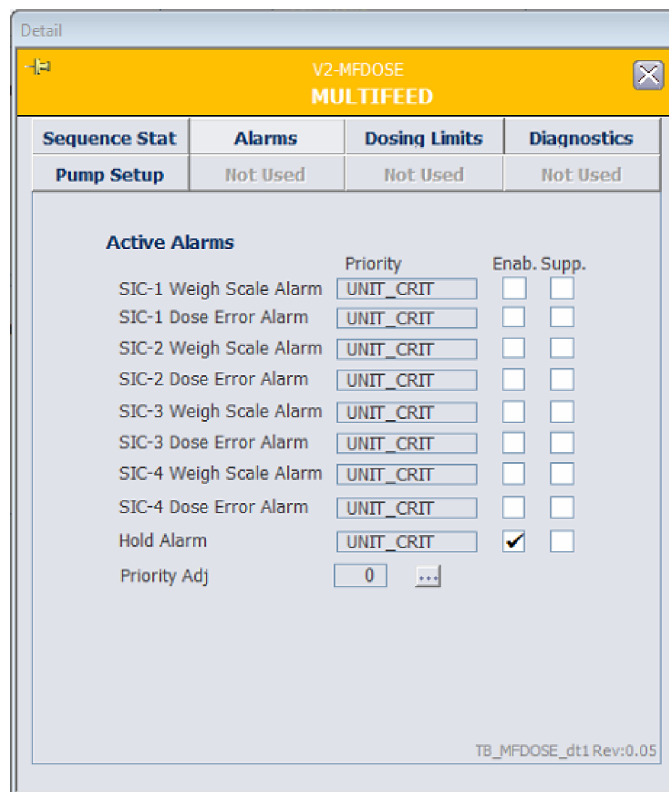

Figure 5.39. Alarms on Multi-Feed menu.
4. The alarms are enabled or suppressed on the **Alarms** tab shown in Figure 5.39. The **Priority Adjust** feature enables you to set the alarm levels from **Critical** to **Advisory**.